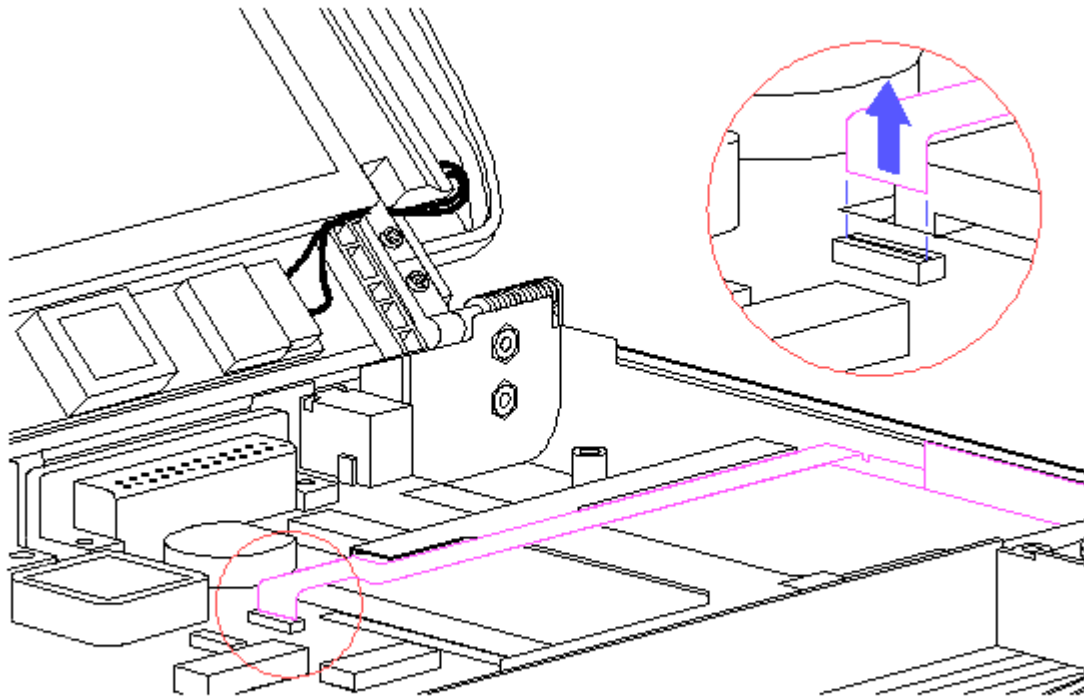

Figure 3-38. Disconnecting the Trackball Cable from the System Board
6. With the Case utility tool, disconnect the trackball cable from the system board connector. (Figure 3-38).